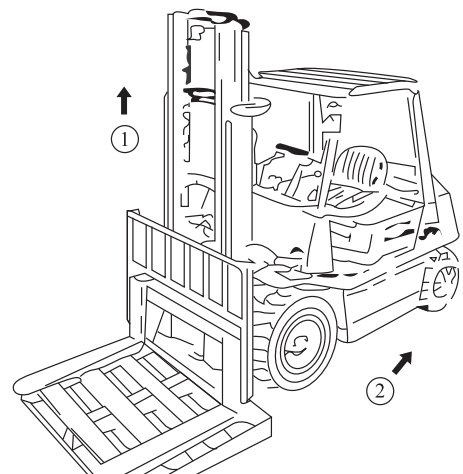

Fig. 8-6
- (1) Place a salver on the forks and make the forklift stop on the horizontal ground.
- (2) Make the forks and salver descend to the ground.
- (3) Take down tie-in top of the chains . And take out chains from sheave.
- (4) Make the inner mast rise. (Fig. 8-6 ①)
- (5) The forklift can be reversed when the lift bracket disengaged from the outer mast. (Fig. 8-6 ②)
- (6) Replacing Main Rollers.